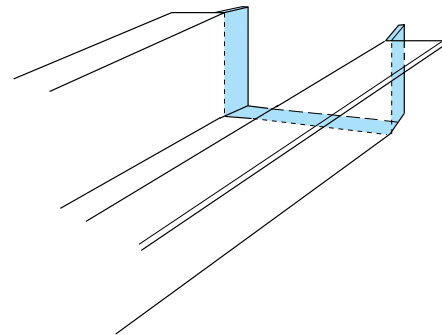

Fig. 4.36 — Step Tabs Inward on the New Rail Section
- 4 Step the tabs inward to allow the service rail to fit inside the original rail (Fig. 4.36).